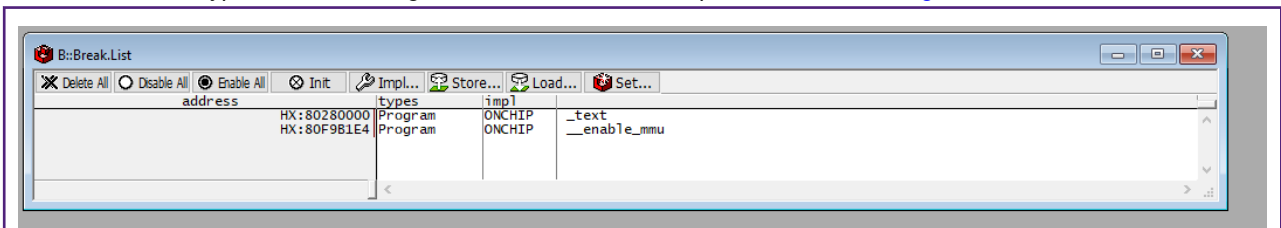

Figure 18. Breakpoint list
4. Set hardware breakpoint at *__enable_mmu* Figure 18